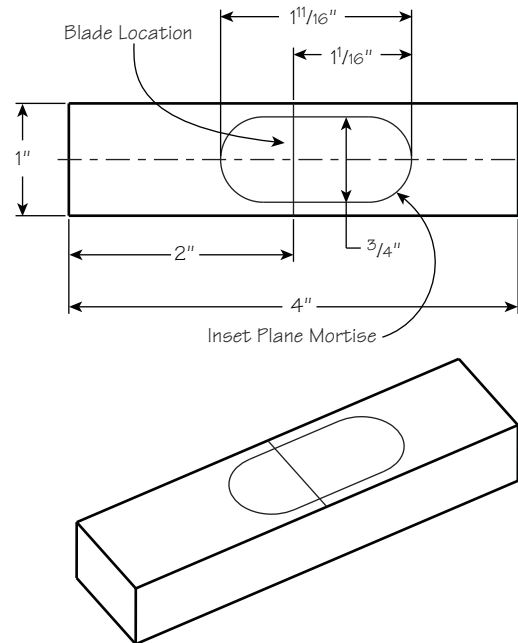

Figure 2: Blank with mortise layout lines.
2. Lay out the mortise dimensions as shown in **Figure 2**.